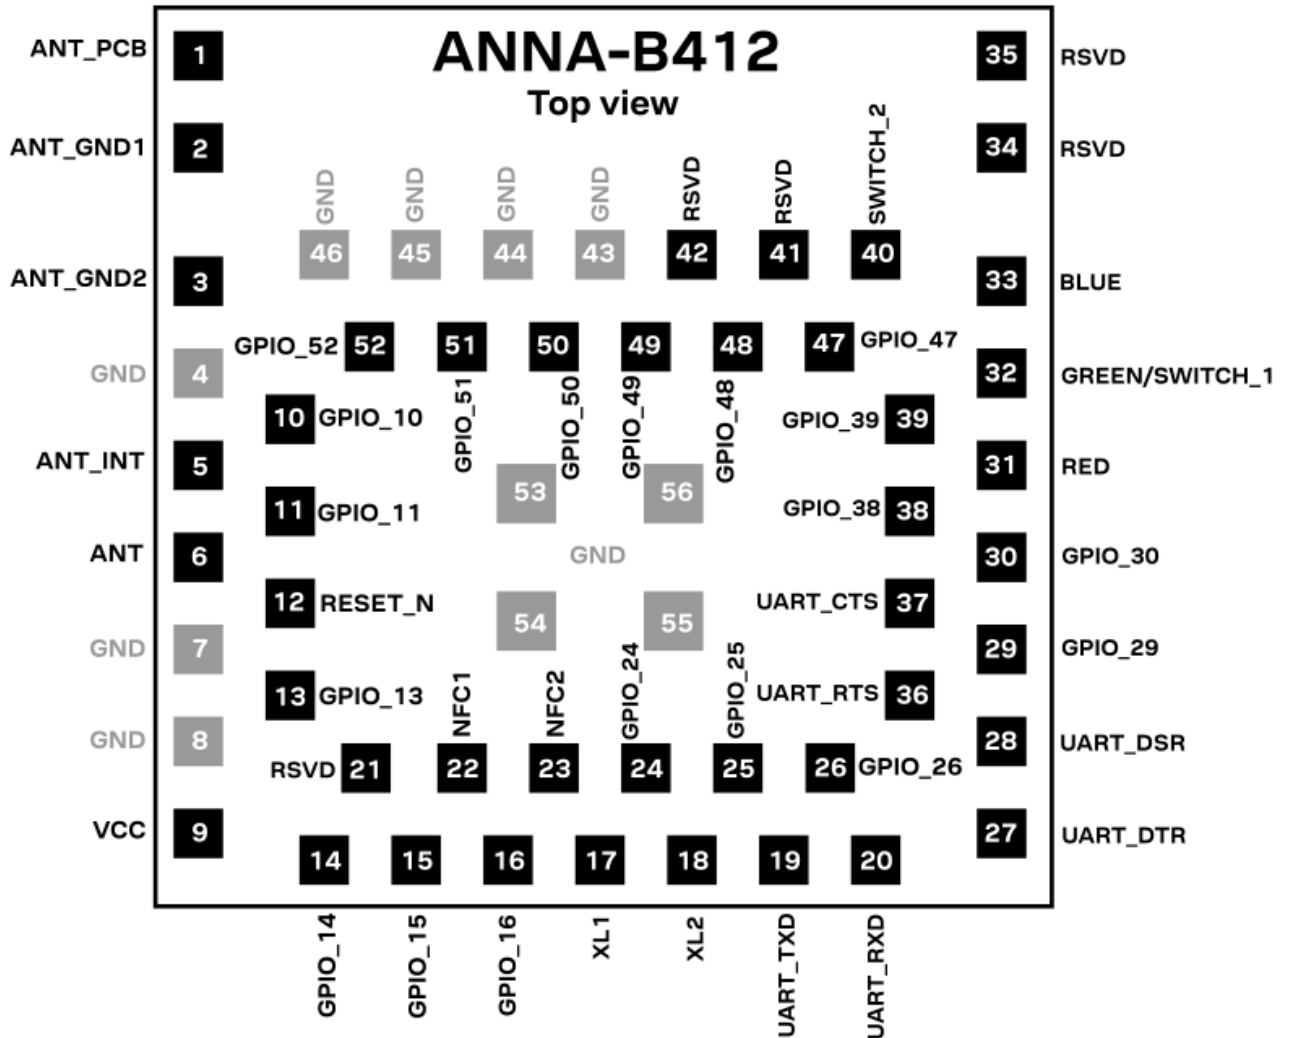

Figure 3: ANNA-B412 pin assignment (top view)
Figure 3 shows the pinout and pin configuration of ANNA-B412, where:
- GND pins are shown in grey in Figure 3.